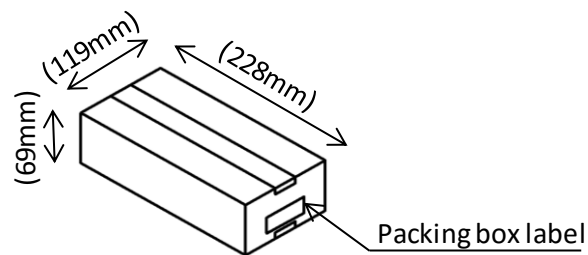

Fig. 2 Perspective view of packing box
- 2) Packing box is shown in Fig. 2.